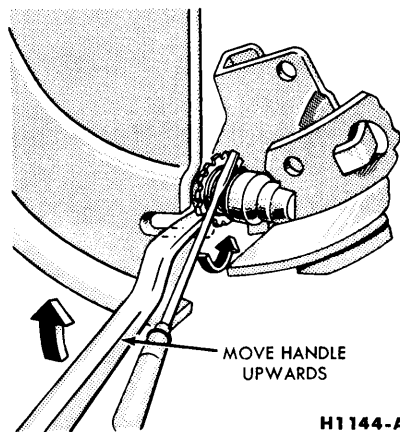

FIG. 15—Backing off Brake Adjustment
2. Remove the hub cap and wheel. Remove the three Tinnerman nuts and remove the brake drum. If the brake drum will not come off easily, insert a narrow screwdriver through the brake adjusting hole in the carrier plate, and disengage the adjusting lever from the adjusting screw. While holding the adjusting lever away from the adjusting screw, back off the adjusting screw with the brake adjusting tool (Fig. 15). **Back off the adjustment only if the drum cannot be removed. Be very careful not to burr, chip, or damage the notches in the adjusting screw; otherwise, the self-adjusting mechanism will not function properly.** If the adjustment was changed, make certain that the adjuster lever is properly seated in the shoe web.